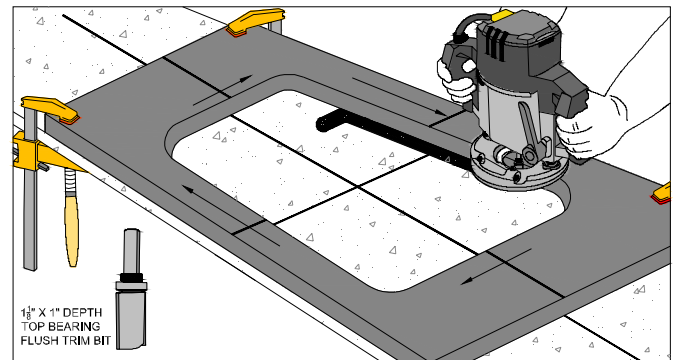

Figure 34B
- Index a 3 $\frac{1}{4}$  HP or 2 $\frac{1}{2}$  HP plunge router with a 1" x 1 $\frac{1}{2}$ " top bearing flush trim router bit. (FIG. 34B)
- Route along templates in the direction indicated. (FIG. 34B)